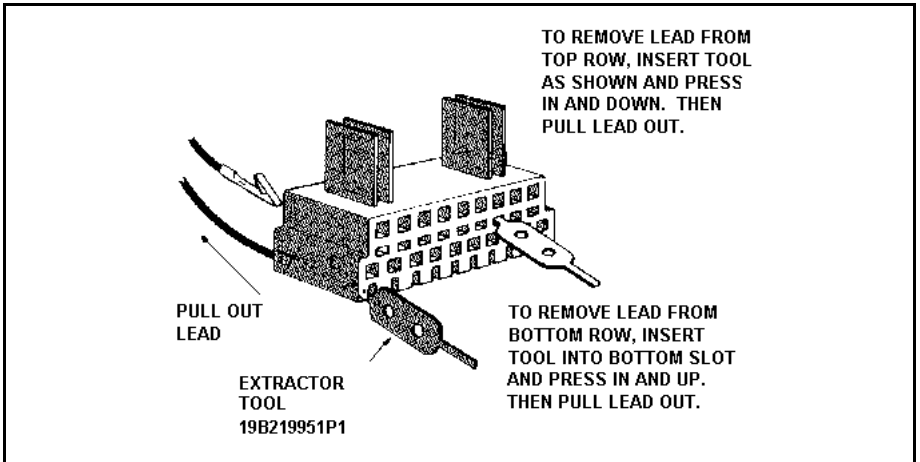

Figure 10 - Using Extraction Tool
3. Tape the plug(s) and retaining hook. If it is necessary to disassemble the 19-pin plug(s) to run the cable, use the extractor tool as shown in Figure 10. Mark the plug(s) for identification and write down the wire colors and hole numbers as the wires are removed from the plug(s).